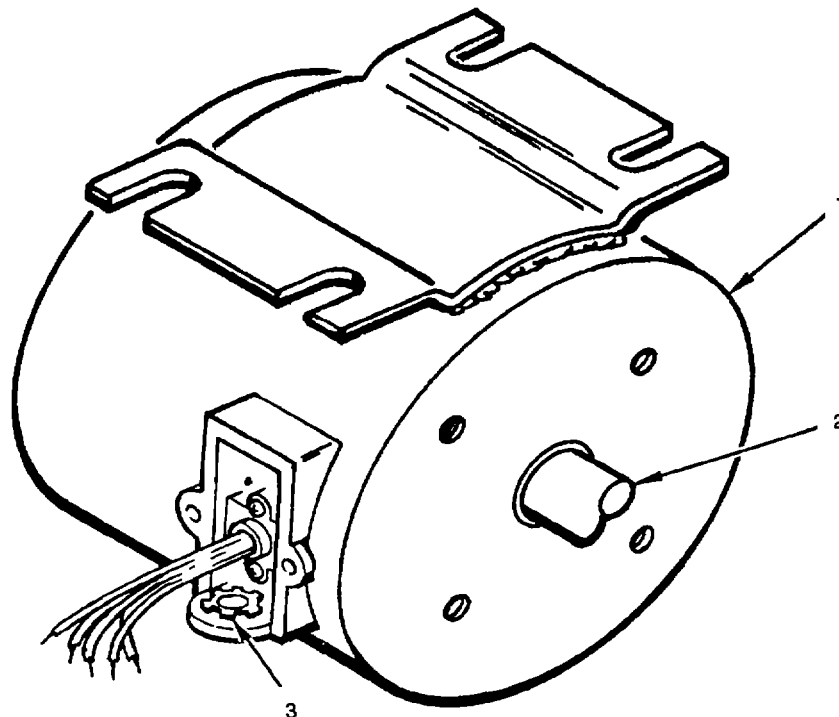

Figure 4-38. Evaporator Motor (B2)
- (1) Disconnect air conditioner input power at source; and
- (2) Remove evaporator duct/panel (paragraph 4.22).
- a. Check motor (1) for rotational freedom by spinning shaft (2). If there is any stiffness or binding, contact Direct Support Maintenance (see fig. 4-38).
- c. Remove motor (1).